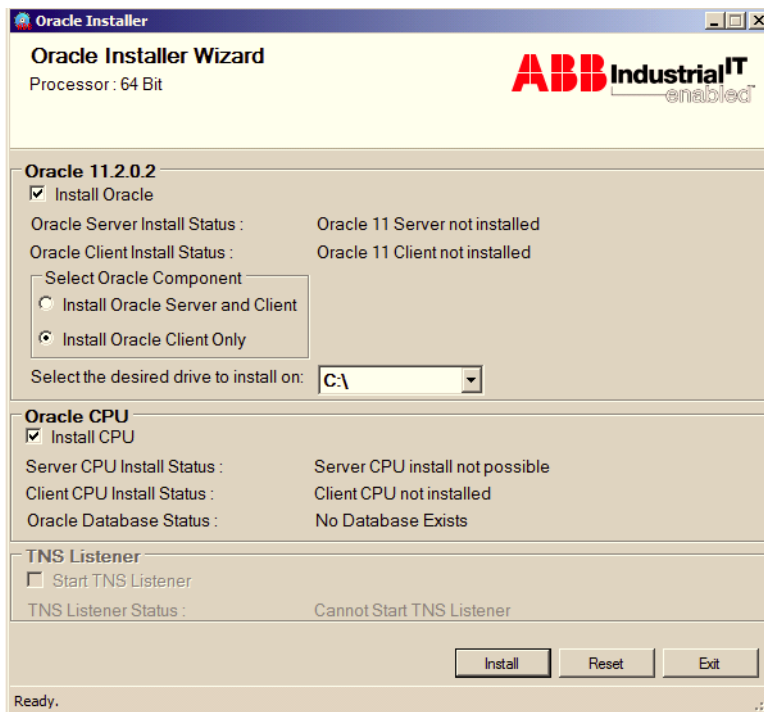

Figure 12. Oracle Installer Wizard Installing Oracle Client
2. On the Oracle Installer Wizard (Figure 12), Select **Install Oracle Client Only** to install the client.